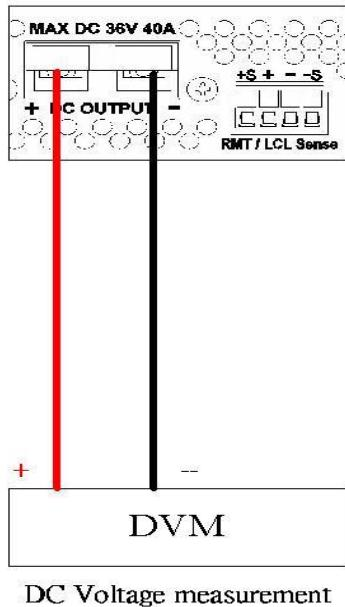

Figure 1
- A. Connect power supply output terminal to DVM (as shown in Figure 1 below). Turn on the supply. Once the unit enters the main page, press **[MENU]** and select “8. Calibration” and key in password “13579” to enter the following calibration menu screen: